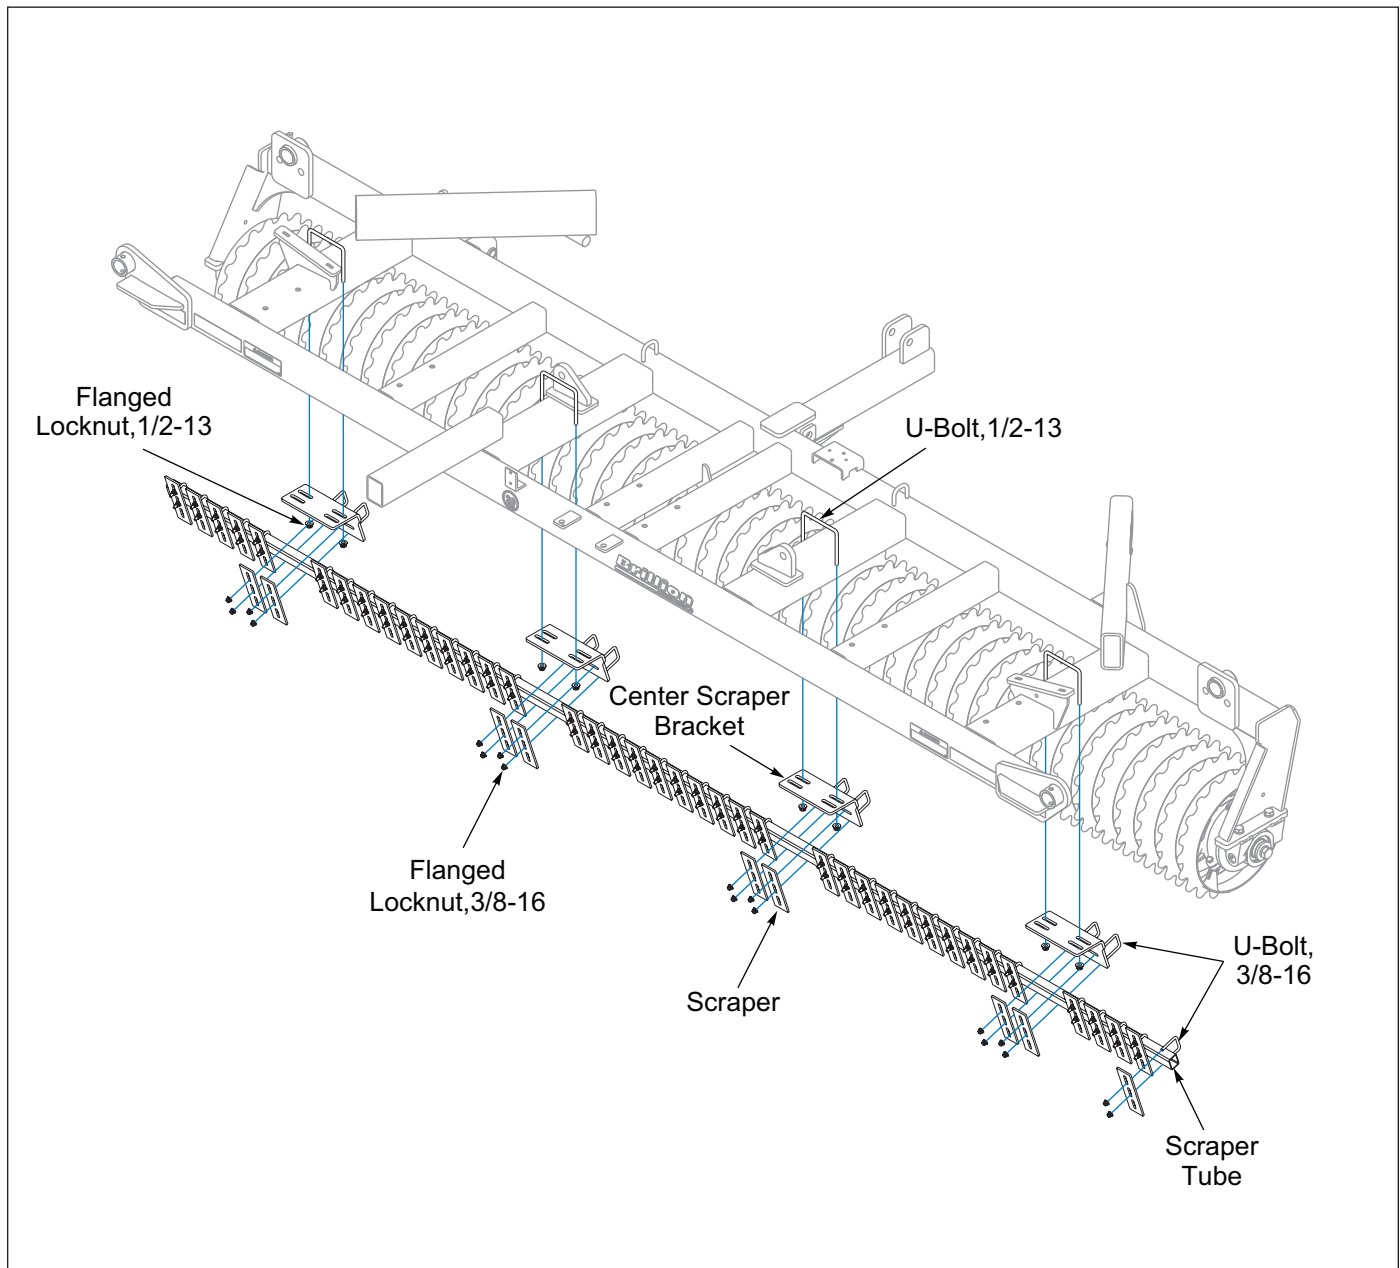

Figure 2-21: Center Notch Wheel Scraper - Optional
1. Place Center Roller on level ground. Assemble the 1/2-13 U-Bolts over the frame center and outer cross tubes and through the Center Scraper Brackets with Flanged Locknuts. See Figure 2-21. Do not tighten.